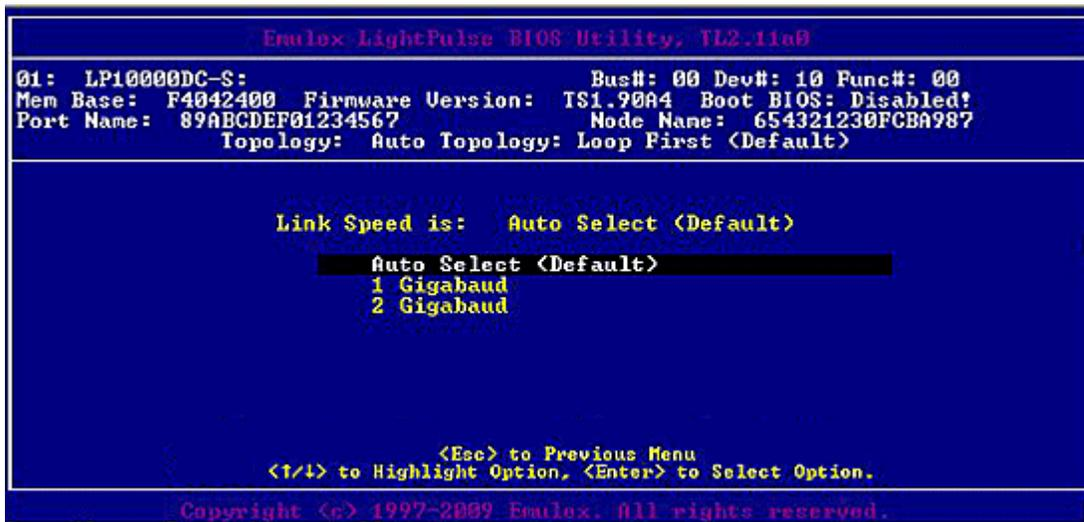

Figure 19: Link Speed Selection menu
2. Select **Link Speed Selection**. A menu similar to Figure 19 is displayed.